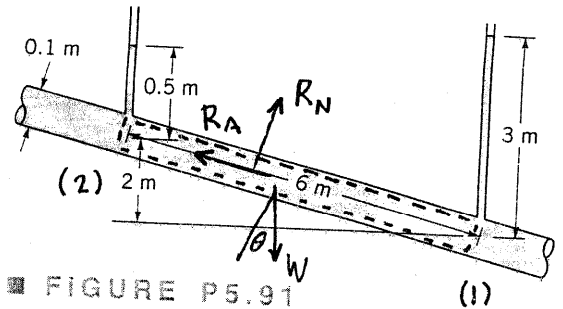

FIGURE P5.91
5.101 Consider the flow shown in Fig. P5.91. If the flowing fluid is water, determine the axial (along the pipe) and normal (perpendicular to the pipe) components of force that the pipe puts on the fluid in the 6-m section shown.